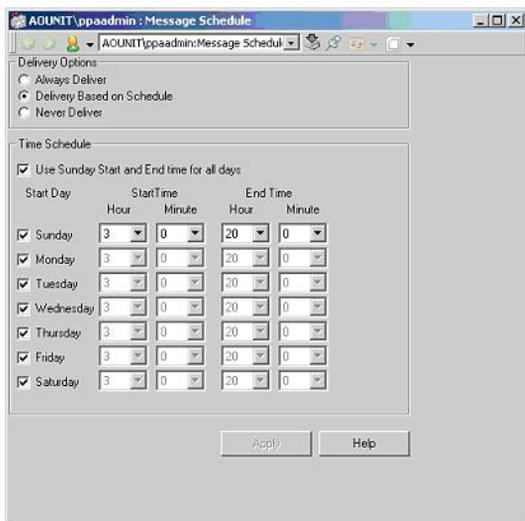

Figure 110. Message Schedule (Delivery Based on Schedule, Use Sunday Start and End time for all days)
- a. Select the **Use Sunday Start and End time for all days** check box. If the time range is the same for every day of the week for which the schedule is active, use the down arrows in the Start Time Hour, Start Time Minute, End Time Hour, and End Time Minute fields *in the Sunday row only* to define the time range. Click **Apply** and the time range appears for every day of the week. The schedule is still only active for the days of the week selected. **Figure 110** shows an example.